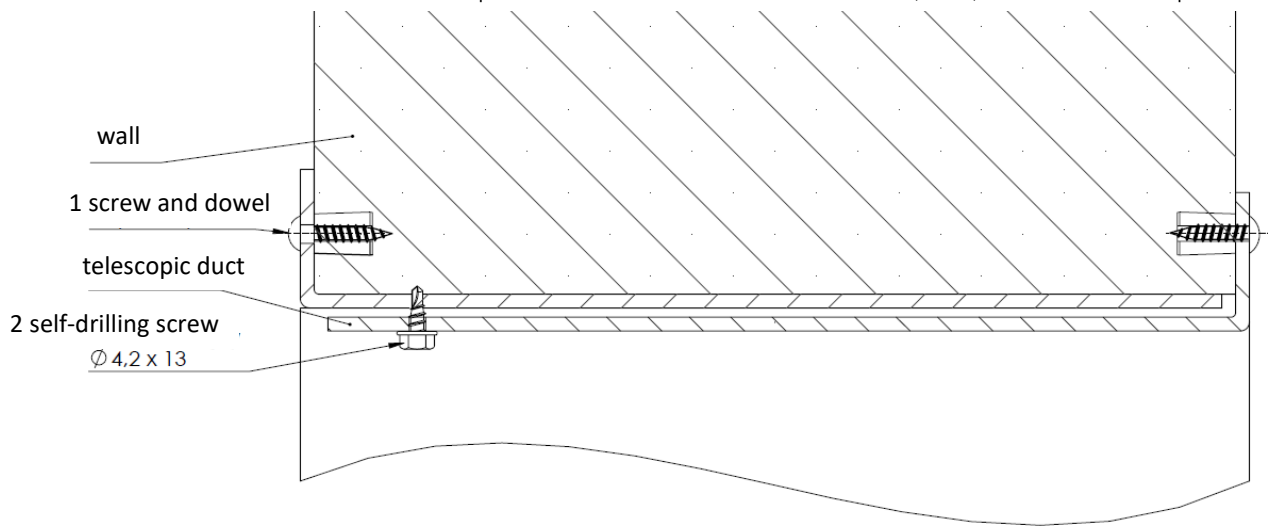
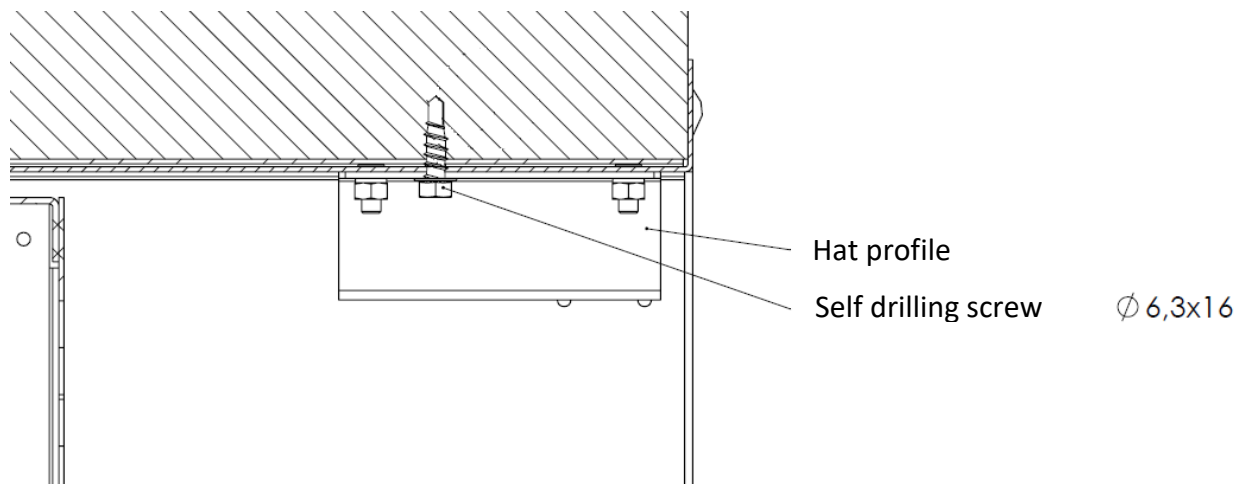

Fig. 11.11. Installation of a telescopic duct in a brickwork wall.
Fig. 11.12. Mounting the hat profile to the telescopic duct.
At the beginning, the telescopic duct is screwed directly to the wall as shown in figure 11.11. Respectively the outer part of the ventilation duct and then the inner part.
The duct should be mounted with screws to the wall supporting elements. For item 1 marked in figure 11.11 use screws with heads not higher than 4mm. Self-drilling screws marked as 2 should be screwed around the entire circumference into existing holes in the duct. Screws 2 are included in the delivery. Two self-drilling screws must be screwed into the hat profiles $\varnothing 6.3 \times 16$ in the existing holes on both sides of each hat profile, drill through two telescopic duct sheets. Screws are included in the delivery. The assembly is shown on fig. 11.12.